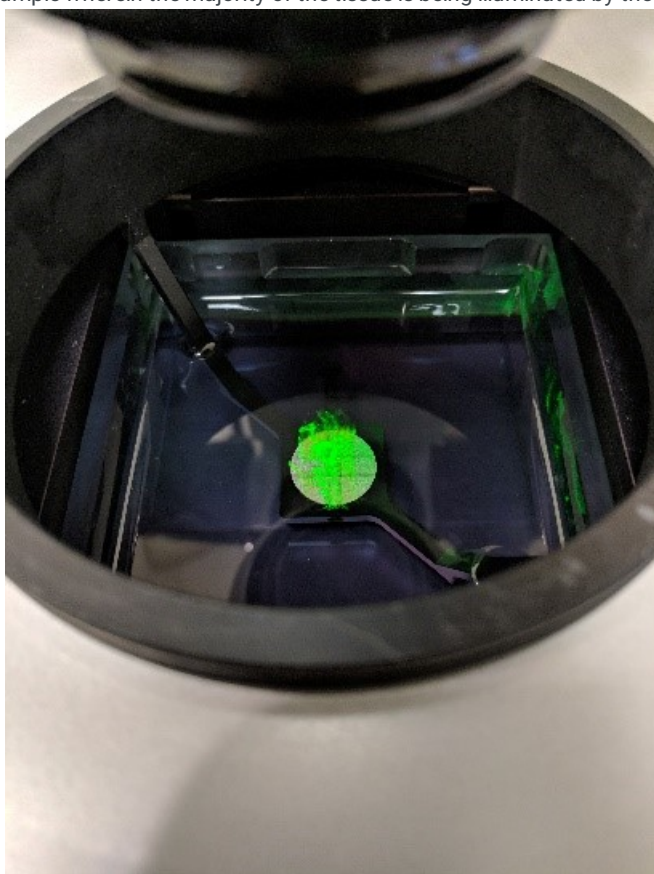

Figure 12.
- 15 Using the Z knob on the joystick (which will move the mounting apparatus up and down, not the objective) adjust the position of the sample until it comes into the plane of the lasers. Figure 12 is demonstrating optimal illumination of the sample wherein the majority of the tissue is being illuminated by the lasers.